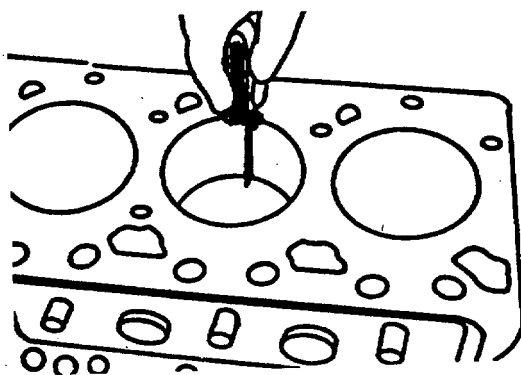

FIGURE 4-48. Measuring Piston Ring Gap.
- (2) Use a feeler gauge to measure the gap as shown in FIGURE 4-48.